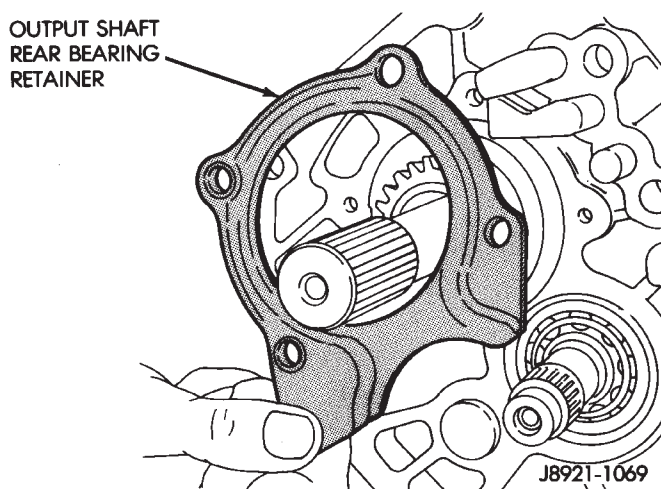

Fig. 39 Removing Output Shaft Rear Bearing Retainer
- (20) Remove rear bearing retainer (Fig. 39).